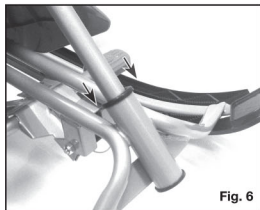

Fig. 6
7. Insert the Steering column① to the front of the Main steel frame③ (See Fig. 6).